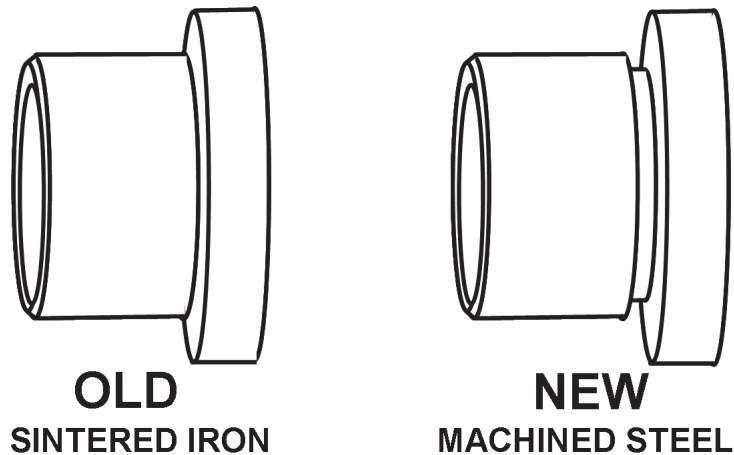

Figure 7-5. Drive Bushings
3. Replace sintered iron bushing (40) with a machined steel bushing (40). Machined steel bushings have an undercut 0.062 wide by 0.005 inch deep immediately behind the bushing shoulder (Figure 7-5). Refer to the "Illustrated Parts List" in Chapter 11 for correct part numbers. Upon compliance with this step, Magneto Part Number 10-349365-2 converts to Part Number 10-349365-3. Over-stamp the magneto nameplate (71) with the new magneto part number. Identify all other part number magnetos complying with this step by stamping a 0.125 inch high letter "B" in the lower left hand corner of the nameplate. Discard sintered iron bushings.